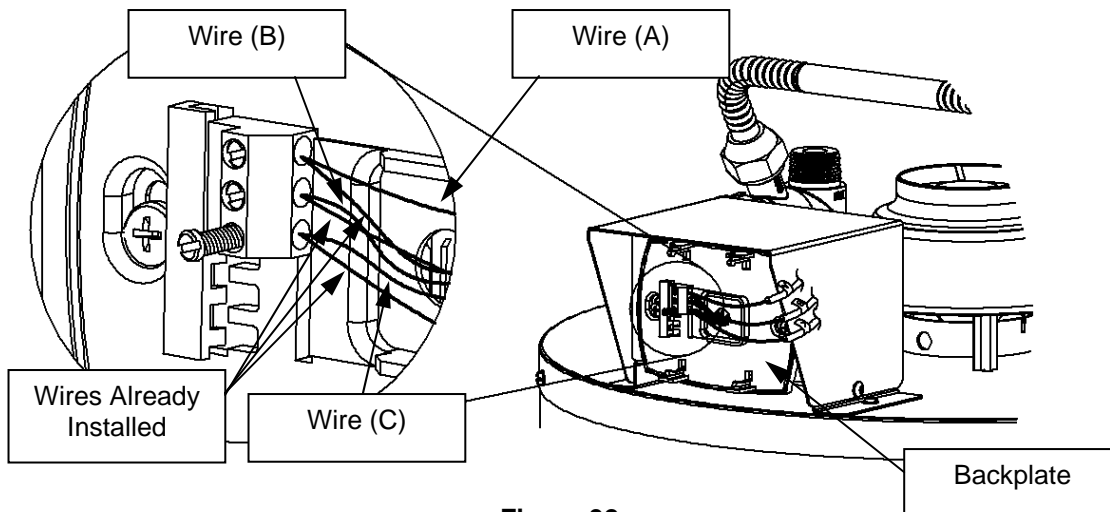

Figure 92
Step 11: Using wire (C), insert one end into the bottom terminal location on the backplate (located on the Setback Control Junction Box Assembly). This is shown in Figure 92. Be sure that the wire already located in this location is not dislodged.